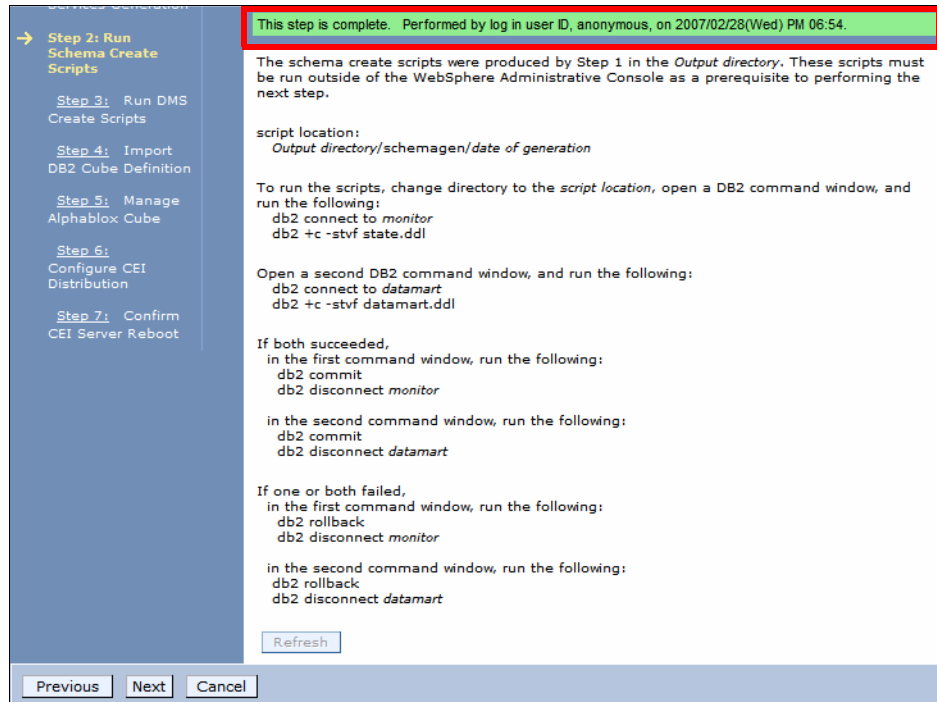

Figure 14-11 Monitor life cycle: Step 2 completed
- ▶ Back in the administrative console, select *Refresh* and wait for confirmation that the step has completed successfully (Figure 14-11).